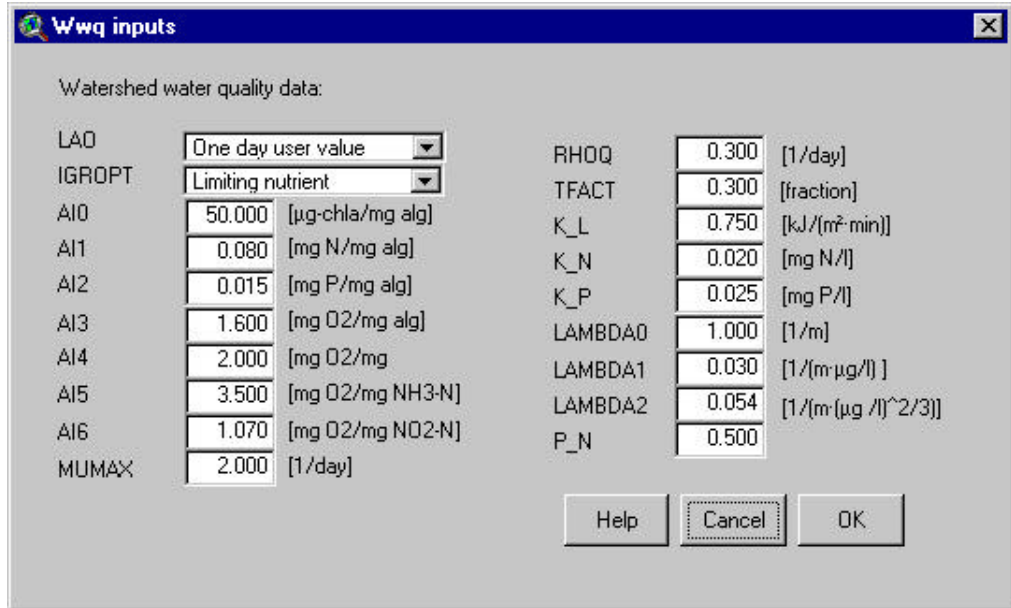

Figure 13.20
- ii. The Wwq Inputs dialog box is displayed (Figure 13.20).